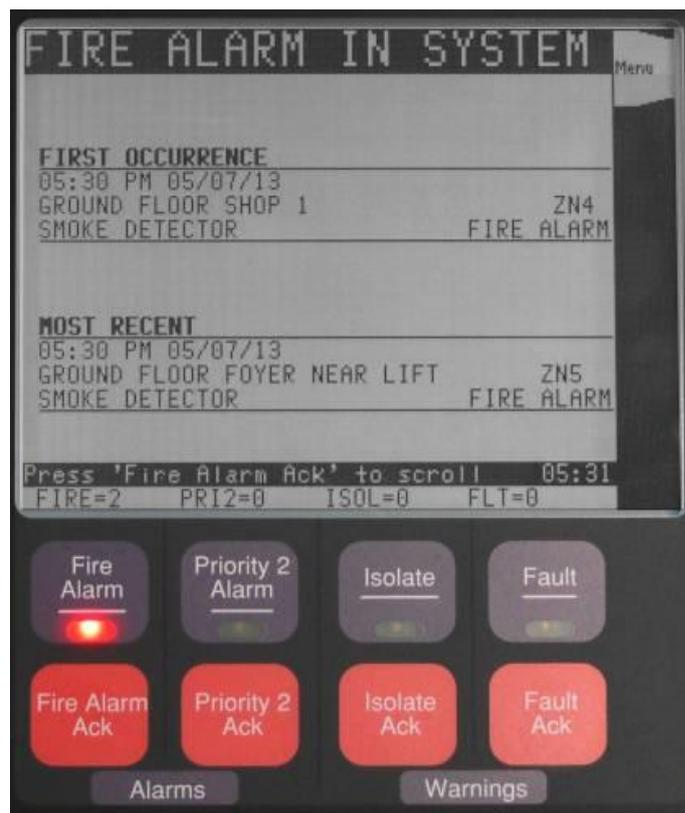

Figure 2-1. Alphanumeric Display Showing Example Alarm
- Alphanumeric display on the operator interface shows the location and type (smoke, call point, etc.) of the first point in the alarm condition, and also the most recent alarm, if there are several. An example display is shown in Figure 2-1.